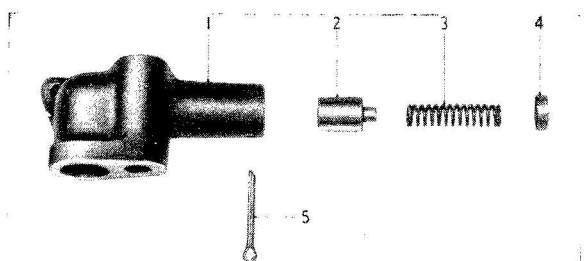

Fig. 15 1. RELIEF VALVE BODY
4. Remove the splitpin from the end of the relief valve housing and withdraw the cap, spring and plunger (Fig. 15).